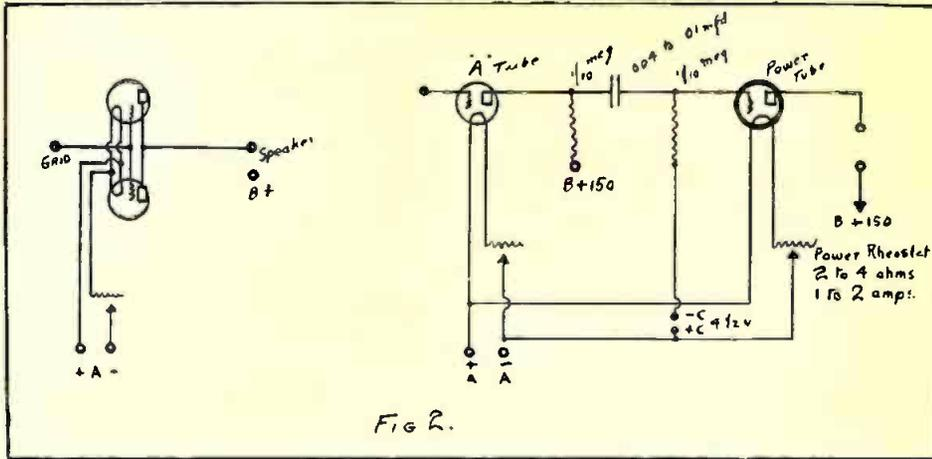

FIG 2.
BY tuning the secondary coil to wavelength by means of variable condensers as in Fig. 2, the transformers can be accurately "peaked" at the desired wavelength so that the maximum amplification is secured on any wavelength within the range of the condensers. The variable condensers (C1) and (C2) are connected directly across the secondary coils (S) of the transformers (RF-1) and
Fig. 2—To prevent overloading of the lost audio tube, a heavy power tube may be employed, or as an alternative nearly as good, two tubes may be operated in parallel.
Therefore, the obvious solution to this part of the problem lies in the use of a heavier tube or in using two or three "A" tubes in parallel to gain the desired effect. The improvement in tone quality found in this way is astonishing. The loud speaker talks up with crispness. There's no "draggy" effect as the tube tries to recover from one shock just as another one comes along. See Fig. 2 for both ways. The heavy tube is to be preferred, in that the parallel operation of tubes is not universally attended with success. A way out of this difficulty is outlined below.
Figure 2. Wiring diagram for distortionless audio amplifier. As all parts have been illustrated pictorially, rather than in symbols, this diagram is very easy to follow, even by the inexperienced set builder.